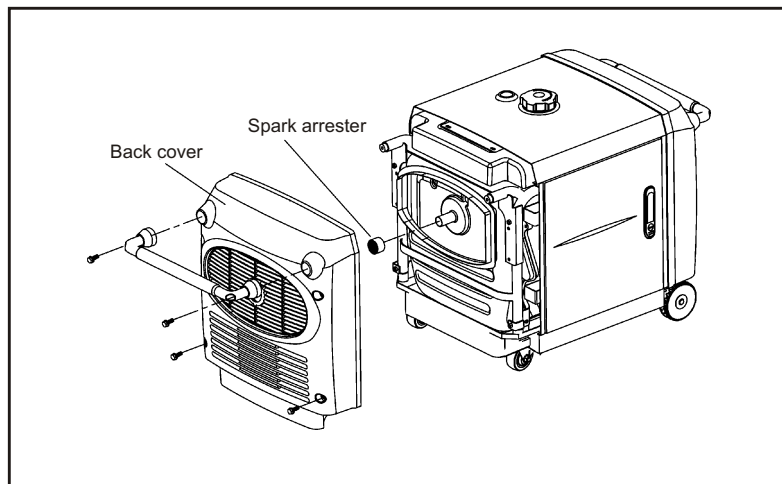

Fig. 17 Remove the spark arrester view
7.6 Spark arrester maintenance (See Fig.17)